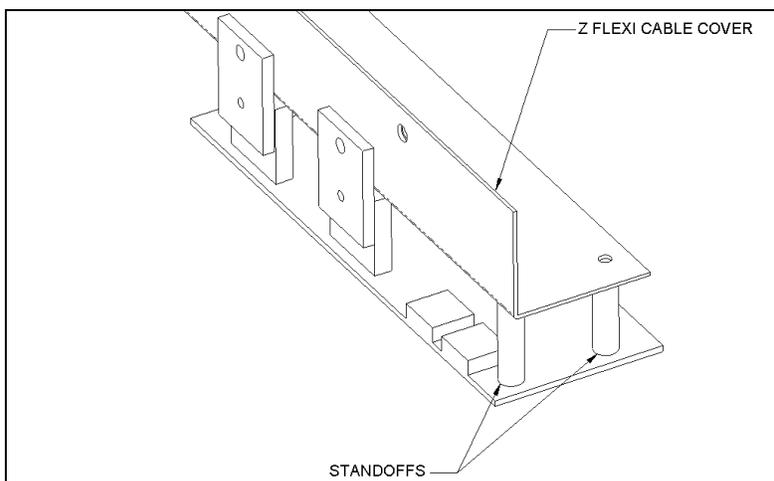

Figure 7-34 Location of Standoffs/Z Transition Board
- 2 Remove the two M3 x 6 buttonhead screws that hold the board to the standoffs (Figure 7-34).